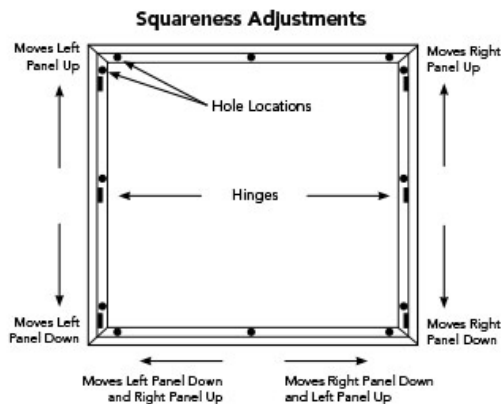

FIG. 3.1
4. Square or level panels to the opening (See Fig. 3.1)